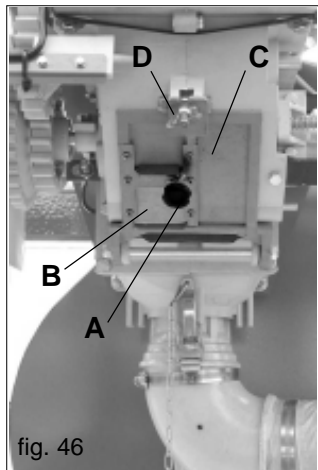

fig. 46
- a) put a bag or a container under the discharge hatch of the dosing apparatus, and then unscrew the knob (A Fig. 46) to discharge the hopper contents through the hatch (B). Lastly, open the discharge hatch (C Fig. 46) by unscrewing the wing nut (D Fig. 46) to empty the remaining contents of just the doser;